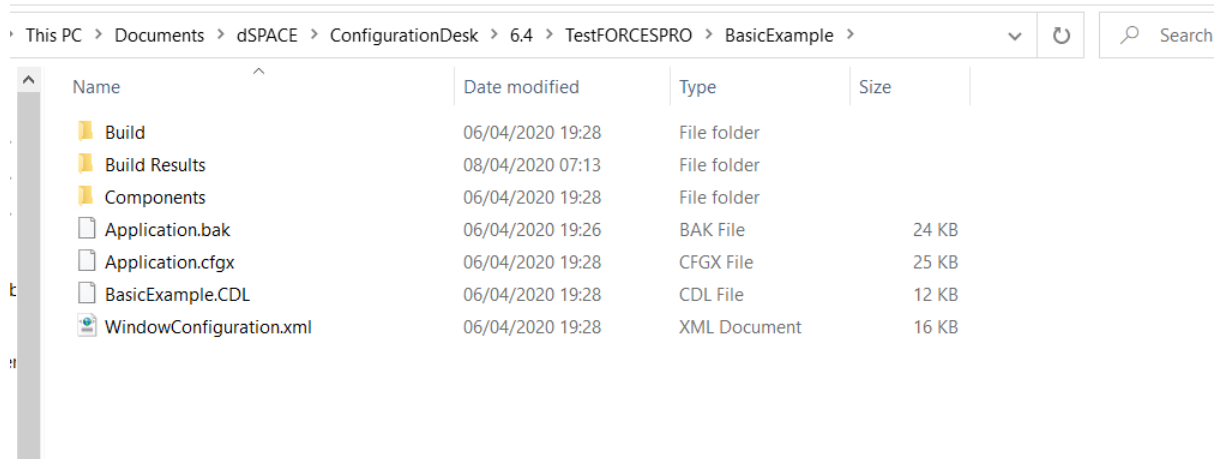
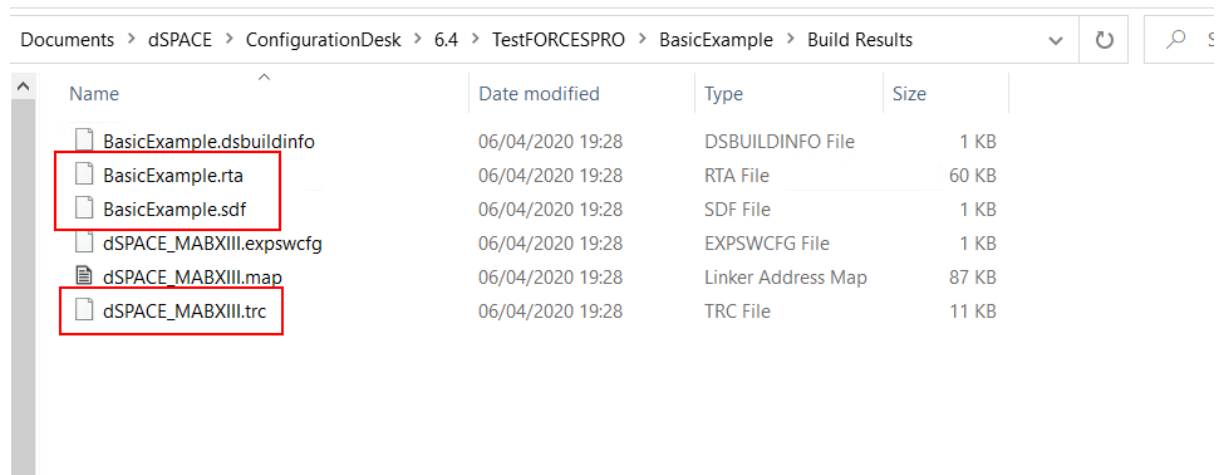

Figure 12.74: The generated files from the ConfigurationDesk building.
Figure 12.75: The files necessary for the simulation of the FORCESPRO controller.
- 1) After code generation with FORCESPRO and building with the ConfigurationDesk, the ConfigurationDesk project will have generated files to use to run your model on the MicroAutoBox III (see Figure 12.74 and Figure 12.75).